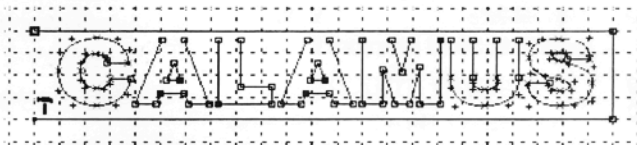

Fig 8. Construct a box around the vectorised text with the hammer.
4). Next, make the frame containing the text active, click on the hammer and construct a box around the text (see below, fig 8).